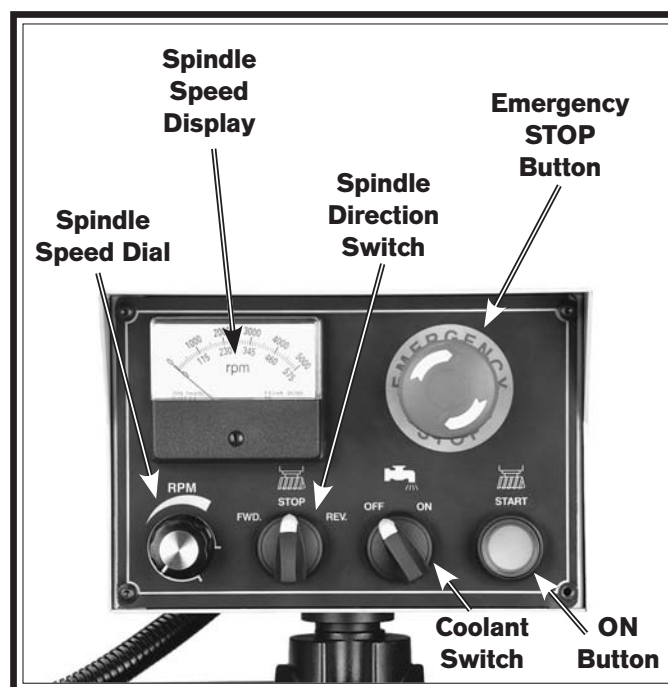

Figure 15. Control panel.
4. Rotate the spindle speed dial on the control panel counterclockwise to the lowest setting, the spindle direction switch to the STOP (middle) position, and the coolant switch to the OFF (left) position (see **Figure 15**). This will disable these functions for now when the power initially flows to the control panel in the next steps.